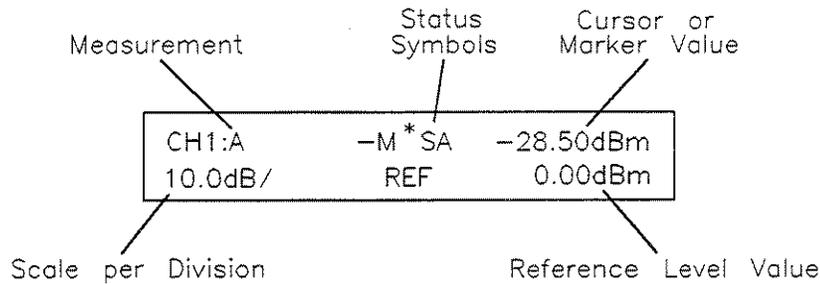

Figure 1-3. Mode Labels Description
- ① **Mode Labels** Figure 1-3 shows each part of the mode labels area. For each channel turned on, this area shows the following: